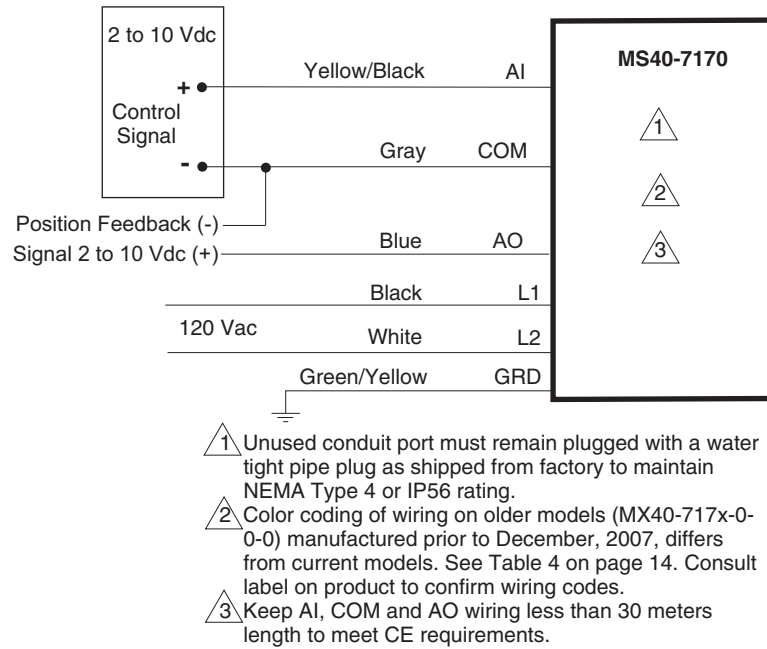

Figure-1 Typical MS40-7170 2 to 10 Vdc Wiring Diagram.
**Control Signal:** 4 to 20 mAdc (with the addition of a 500 Ohm resistor - not included) or 2 to 10 Vdc. See Figure-1 through Figure-8.